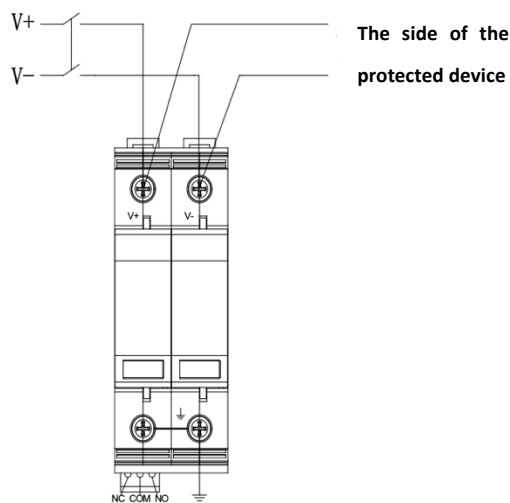
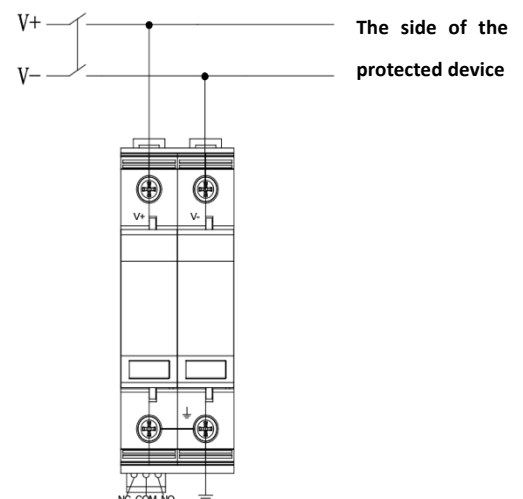

Figure 7-1 RPD48-40/2P wiring diagram -V' shape wiring
Figure 7-2 RPD48-40/2P wiring diagram - conventional wiring
1. The product is installed and fixed using a 35mm standard guide rail. When the V-shaped wiring shown in Figure 7-1 is recommended for wiring, conventional direct parallel wiring as shown in Figure 7-2 can also be used. In order to achieve better protection effect, when using direct parallel wiring, the wiring should be as short as possible and the total length should be controlled within 0.5m.